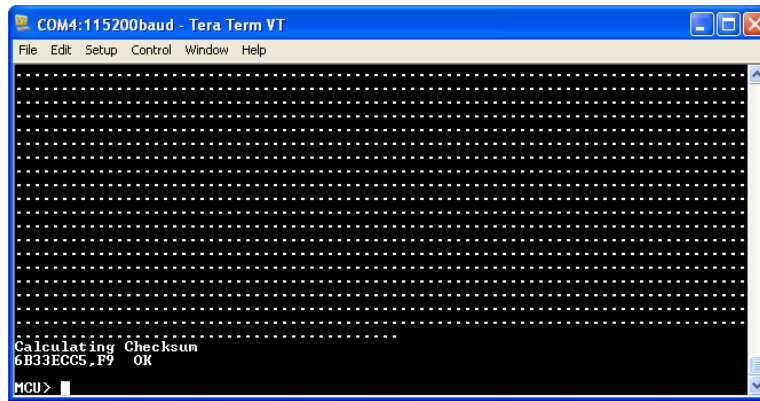

Figure 16: Download Complete
- q) When the terminal program is finished transferring the data, the radio will display a “Done” message. The update is now complete. See Figure16